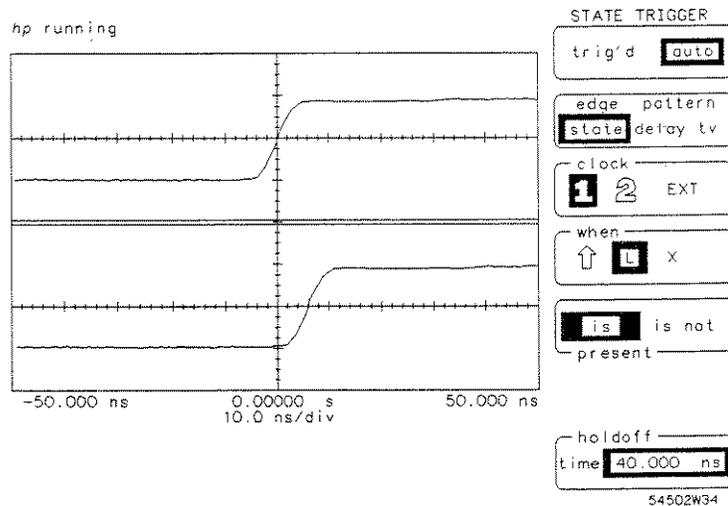

Figure 6-11. Channel 1 Clock LX State
- Press the **when** key until **is present** is selected (see Figure 6-11).